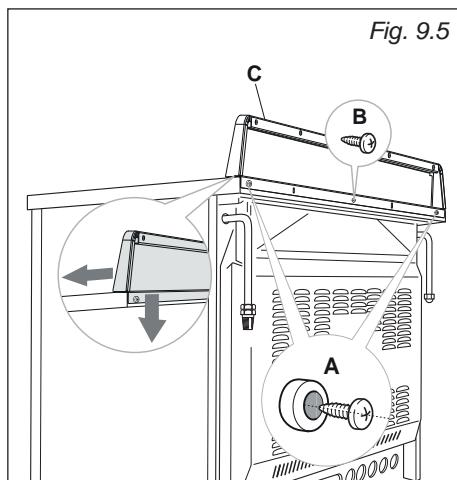

Fig. 9.5
Before installing the cooker, assemble the backguard "C" (fig. 9.5).
- Assemble the backguard as shown in figure 9.5 and fix it by screwing the central screw "B" and the spacers "A".